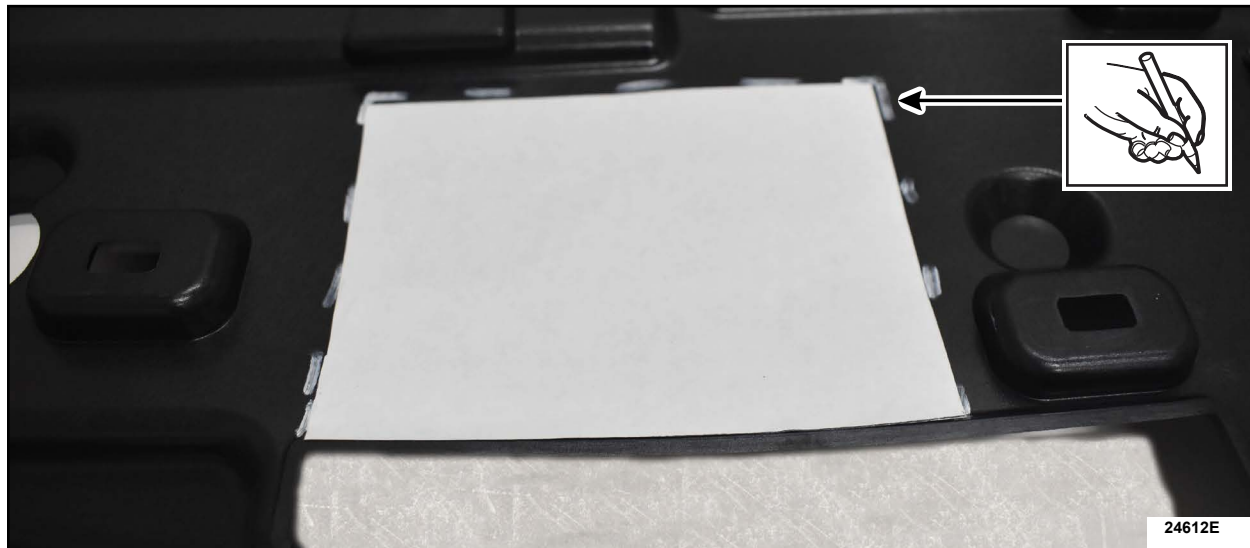

FIGURE 5
7. Trace the outline of the template onto the back side of the upper radiator air deflector. See Figure 5.